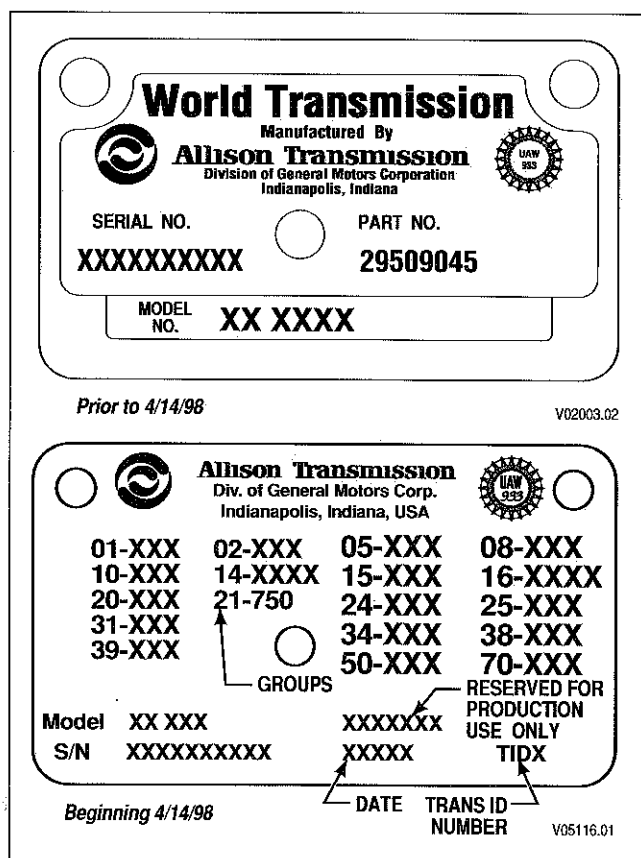

Figure 1-9. Transmission Nameplate
**a. Transmission Nameplate.** The nameplate (Figure 1-9) is located on the right side of the transmission. The nameplate used prior to April 14, 1998, is imprinted with the transmission serial number, part number (assembly number), and model number. Use all three numbers when ordering replacement parts or requesting service information. The nameplate used beginning April 14, 1998, is imprinted with the transmission model, serial number, date code, TransID number, and engineering groups. Use all of these numbers when ordering replacement parts or requesting service information.